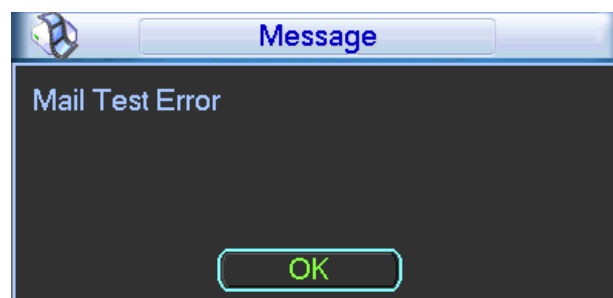

Figure 4-47
- Interval: Please check the above box to enable this function and then set the corresponding interval. System can send out the email regularly as you set here. Click the Test button, you can see the corresponding dialogue box to see the email connection is OK or not. See Figure 4-47.